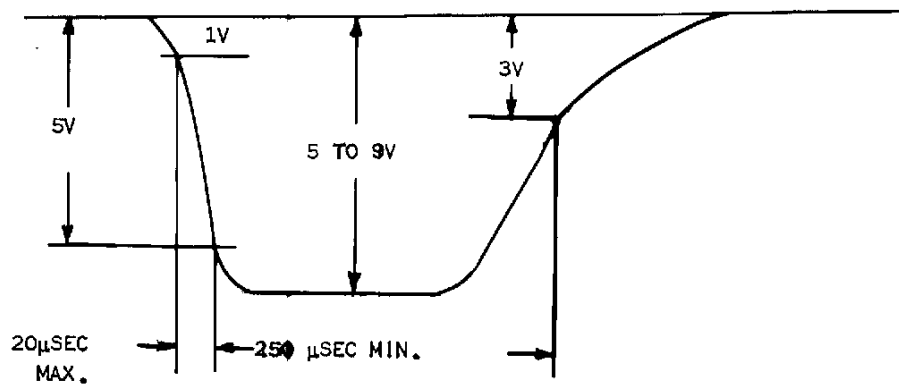

FIGURE 4
- D. CHANGE SCOPE TRIGGER TO INTERNAL MINUS AND CHANNEL A ONLY. PULSE TO HAVE WAVE SHAPE SHOWN IN FIGURE 4. INPUT VM AT 0.
- E. CHANGE TO CHANNEL B AND CHECK PER FIGURE 4.